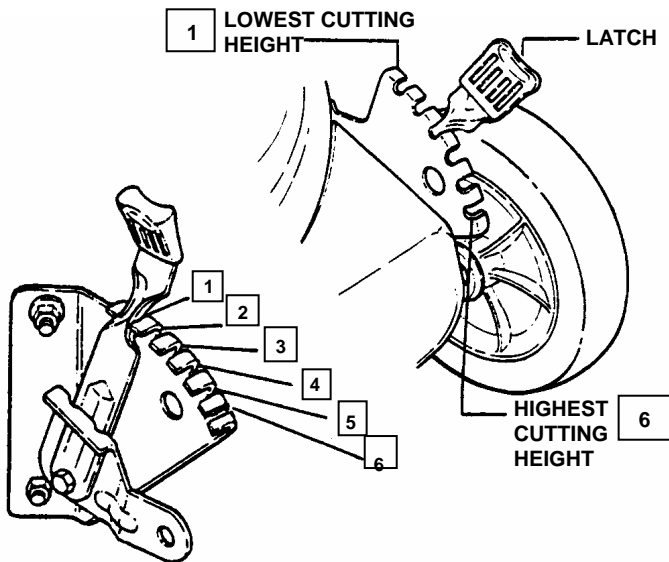

FIGURE 2.9
1. Pull the height adjusting latch outward and move to desired cutting height. See Figure 2.9.